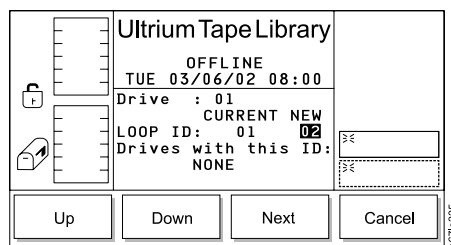

Figure 212. Loop ID Dialog
1. Press the button below the **Next** softkey. The Loop ID Dialog displays (see Figure 212).